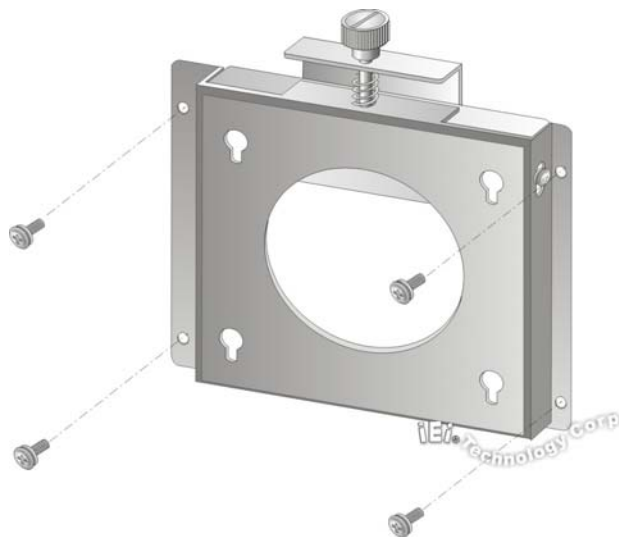

Figure 2-11: Wall-mounting Bracket
- Step 5:** Secure the mounting-bracket to the wall by inserting the retention screws into the four pilot holes and tightening them (**Figure 2-11**).